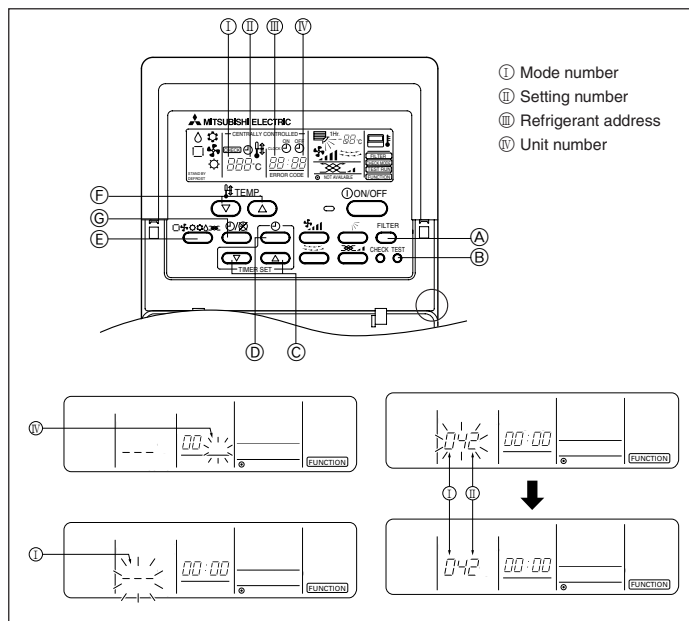

Fig. 7-8
7.3.1. For wired remote controller (Fig. 7-8)